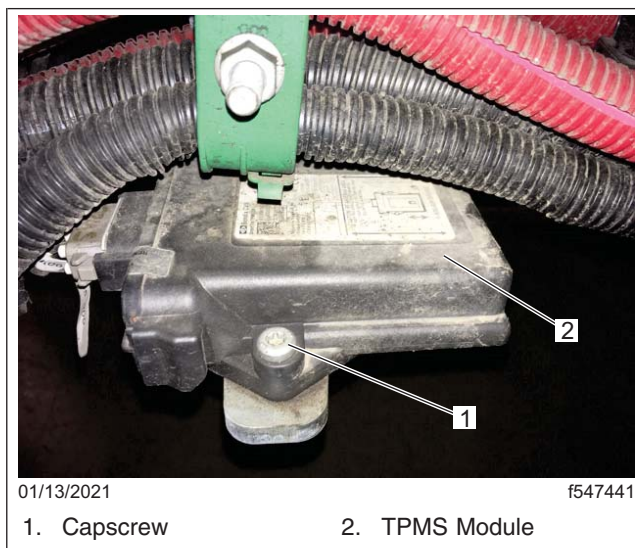

Fig. 3, Fastener Removal
4. Remove the two M6 x 1 capscrews and flange-head nuts from the mounting bracket, then remove the TPMS module. See Fig. 3.